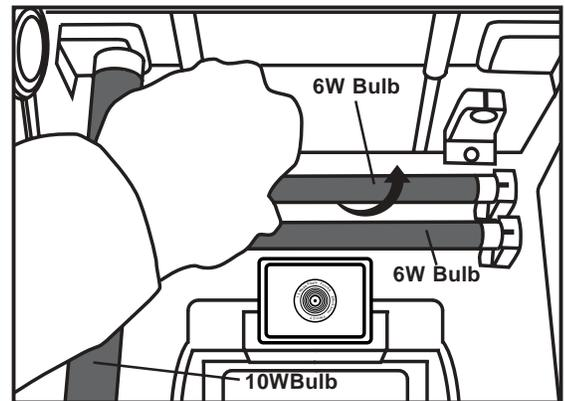

Figure 5
5. Install the bulbs if they did not come preinstalled (fig. 5). Carefully line up each bulb's prongs with its socket loading slots. Rotate each bulb 90 degrees.